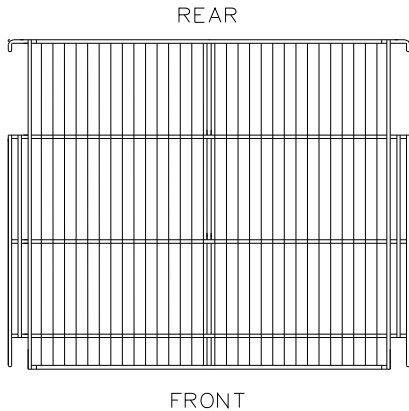

Figure 7: Overhead View of Shelf
- a. Angle/Tilt shelf (Figure 7) left to right, enough for front and rear prongs to clear post. Allow shelf to be placed level at desired height. Insert front and rear shelf hooks into post slots simultaneously.